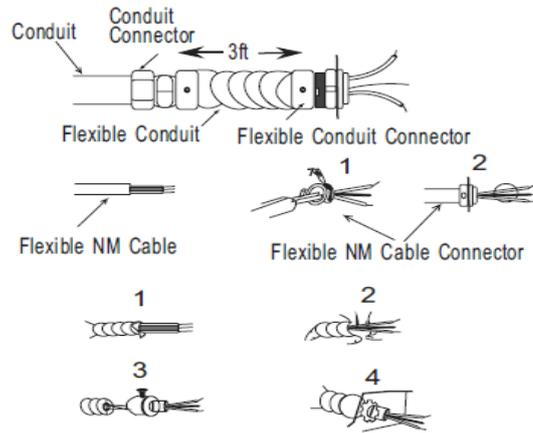

Figure 6-Connectors, cable, and hardware used to wire the heater
2. Attach the cable connectors to the unit (See **Figure 6**) and slide the 10-gauge wire through the cable connector.
**NOTE:** All wiring must be accordance to national and local electrical codes in the United States. For certain applications conduit may be required See Figure 6. Check local electrical codes. If you run the wiring in conduit and wish to be able to turn the heater be sure to purchase enough flexible conduit to allow the heater to be turned.